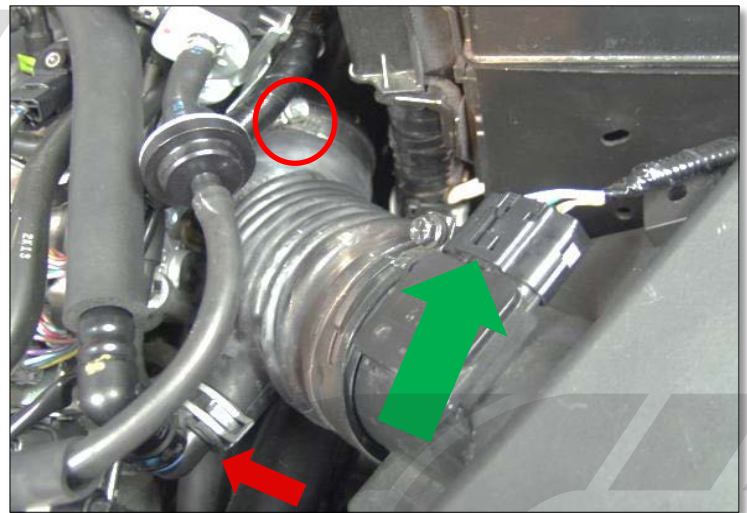

Figure 1e
- f) Remove the intake. Loosen the hose clamp connecting the intake elbow to the turbo inlet pipe with a 10mm socket wrench (red circle in Figure 1e).
- g) Remove the breather pipe from the valve cover (red arrow in Figure 1e) and unplug the MAF sensor (green arrow in Figure 1e).